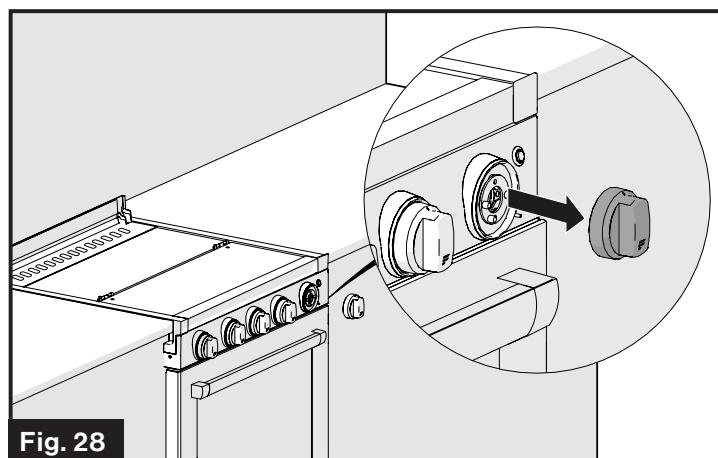

Fig. 28
2. Grasp and pull on the control knob with the broken LED light. (Fig. 28)